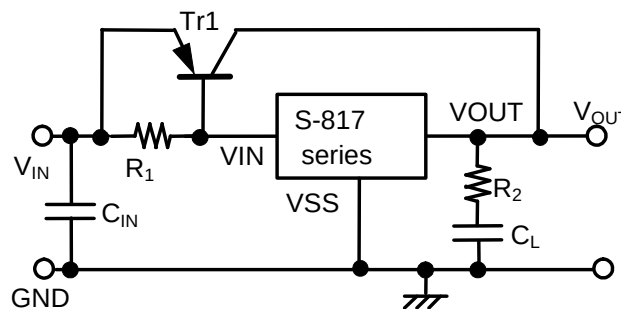

Figure 15
As shown in **Figure 15**, the output current can be boosted by externally attaching a PNP transistor. The base current of the PNP transistor is controlled so that output voltage (V_{OUT}) goes the voltage specified in the S-817 Series when base-emitter voltage (V_{BE}) necessary to turn on the PNP transistor is obtained between input voltage (V_{IN}) and S-817 Series power source pin (VIN).
- To improve transient response characteristics of the output current boosting circuit shown in **Figure 15**, check that no problem occurs due to output fluctuation at powering on or due to power or load fluctuation under normal operating conditions.
The following graphs show the examples of input-output voltage characteristics ($T_a=25^\circ\text{C}$, typ.) in the output current boosting circuit as seen in **Figure 15**: